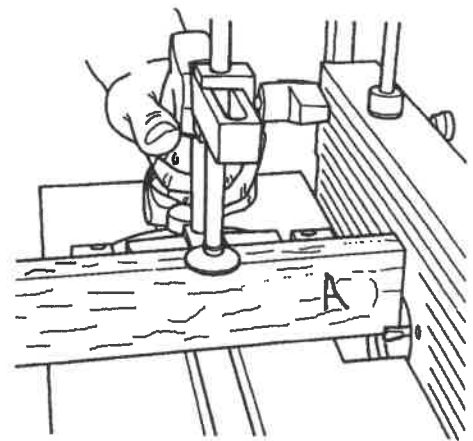

Fig. D-23
7. Place a miter gauge in the miter channel and secure workpiece "A" in it with the clamp, as in Fig. D-23.
Though the feather board kit is not shown attached in Fig. D-23, simply loosen the feather board knobs and move it up and out of the way during all cuts on workpiece "A".
8. Turn on the Dust Collector and router. Make the cut in workpiece "A", shown in Fig. D-23. Turn off the router and Dust Collector.